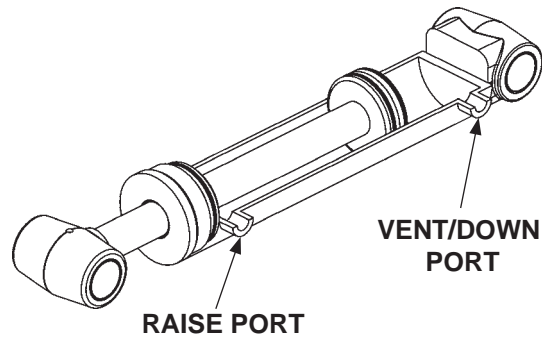

FIG. 36-1
5. Check the hydraulic cylinder. With the platform on the ground, remove the breather plug or vent line from the vent/down port of the cylinder (**FIG. 36-1**). Raise the platform even with the bed. Allow pump motor to run two seconds more while you watch for hydraulic fluid at the vent/down port. A few drops of hydraulic fluid escaping the vent/down port is normal; however, if it streams from the vent/down port, piston seals are worn. Replace seals.